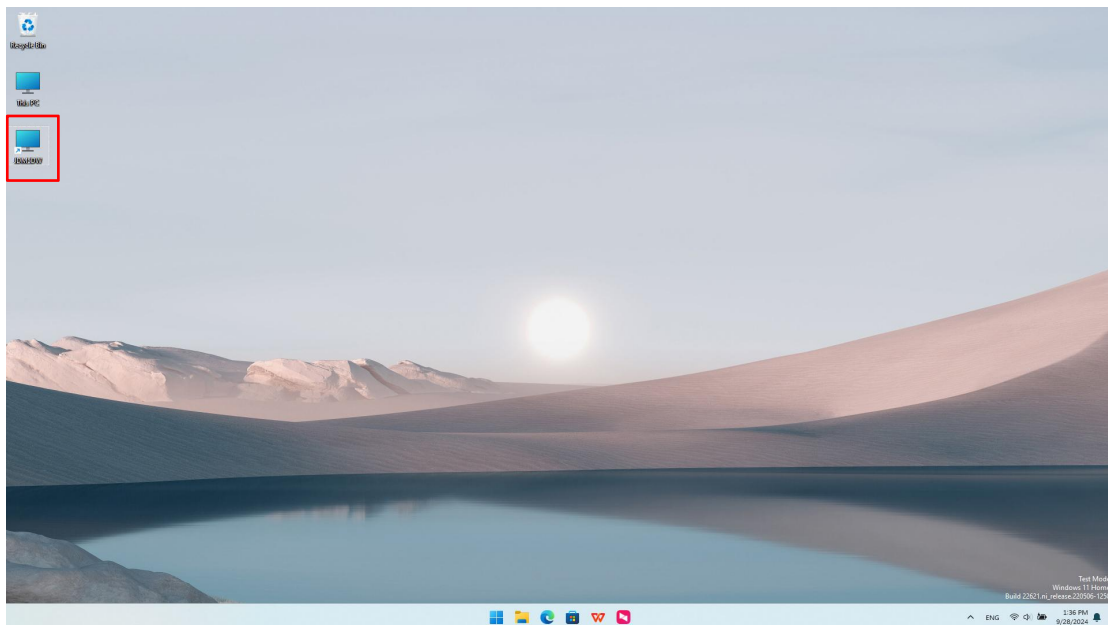

Figure 7.2.11
(11) After creation is complete, you can find the device connection icon on the desktop, as shown in Figure 7.2.11. Double-click the icon to open it.